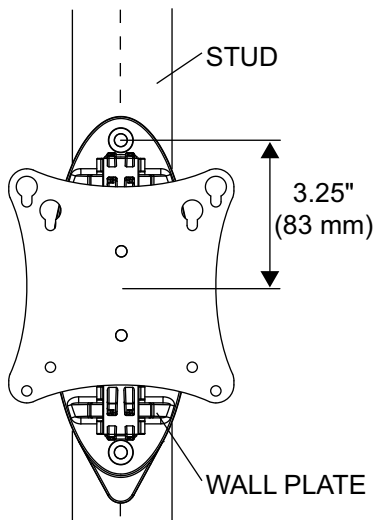
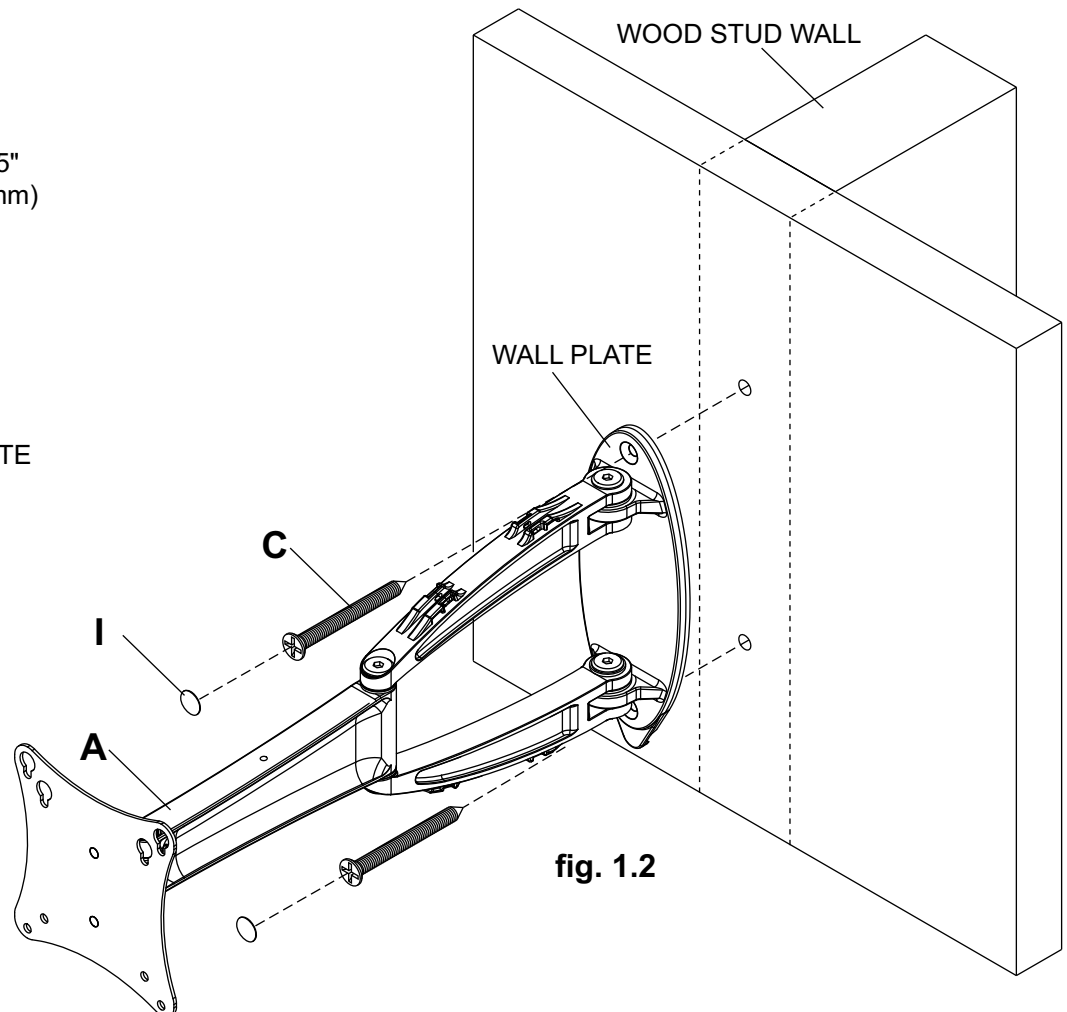

fig. 1.1
fig. 1.2
1 Using a stud finder, locate and mark the edges of the wood stud used in mounting this product. Use of an "edge to edge" stud finder is highly recommended. Use a level to draw a vertical line down the center of the stud. Use wall plate as template to mark center of holes along the vertical line. The top mounting hole should be located 3.25" (83 mm) above the desired screen center as shown in figure 1.1. Drill two 5/32" (4 mm) dia. holes 2.5" (64 mm) deep. Attach wall arm assembly (**A**) to wall with two #14 x 2.5" flat head wood screws (**C**) using #3 phillips screwdriver bit (**M**) as shown in figure 1.2.
- 1** Use a level to draw a vertical line on mounting surface. Level and use wall plate as template to mark center of holes. The top mounting hole should be located 3.25" (83 mm) above the desired screen center as shown in figure 1.1 on page 4. Drill two 5/16" (8 mm) dia. holes to a minimum depth of 2.5" (64 mm). Insert anchors (B) in holes flush with wall as shown right. Place wall arm (A) over anchors and secure with two #14 x 2.5" flat head wood screws (C) using #3 phillips screwdriver bit (M) as shown in figures 1.3. Make sure wall arm is level, and tighten all fasteners.